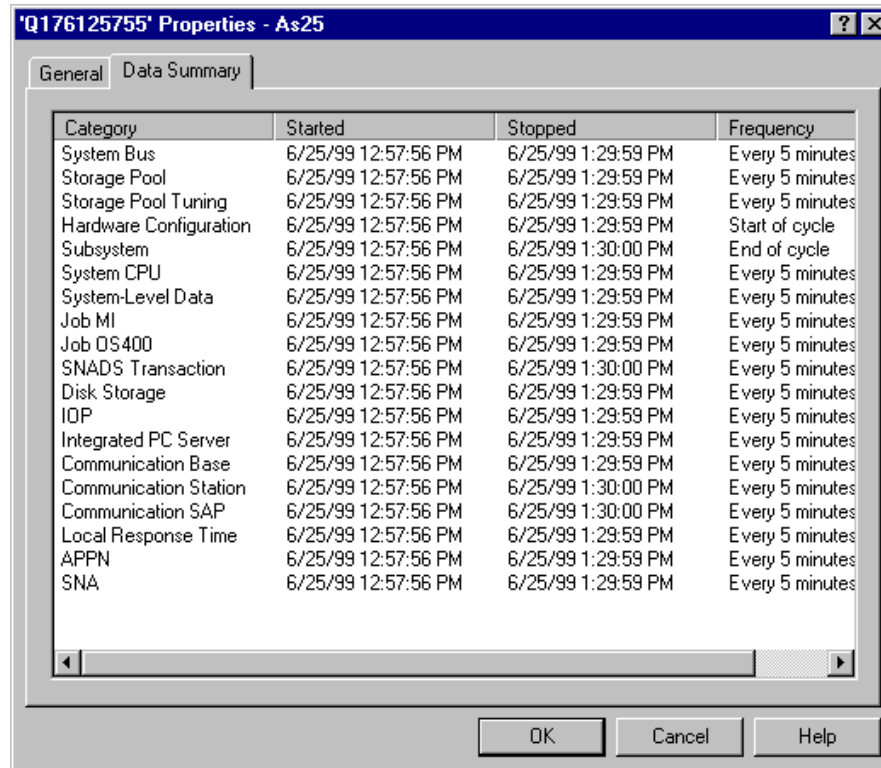

Figure 127. Collection Properties: Data summary page
5. Make the appropriate selection. If you wish to review the characteristics of the data in the collection object, select **Properties**. Select the **Data Summary** page, shown in Figure 127 on page 156, to view the categories of data collected in this collection object, as well as the intervals at which they were collected.
4. You can first select **Properties** to display the characteristics of the data in the collection object. On the Data Properties page, shown in Figure 127 on page 156, you can see the categories of data collected in this collection object as well as the intervals at which they were collected. You can use this information in selecting the data you will export. When you have reviewed this information, click either the **OK** or the **Cancel** button.